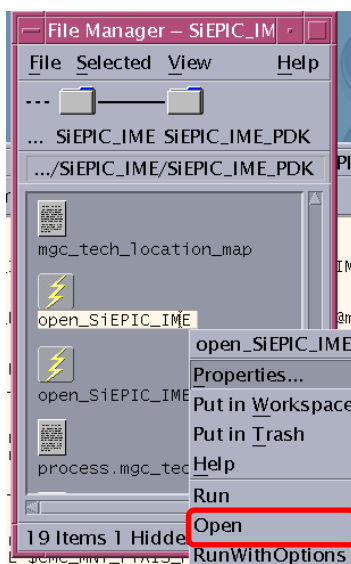

Figure 1: Opening the Script File
- a. Open the script file by right-clicking on the **open_SiEPIC_IME** file icon and selecting **Open** (see Figure 1).